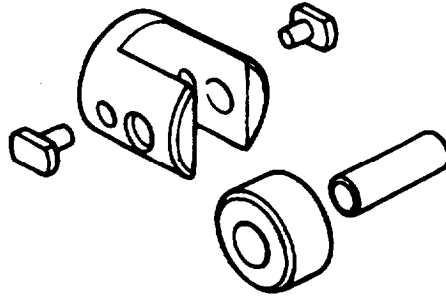

FIGURE 3-26. Feed Pump Tappet
- b. Check piston (29) for damage or cracks. If defective, replace piston.
- c. Check tappet (31) rollers, bushing, and pin for excessive wear, flaws, or peeling. If defective, replace tappet, refer to FIGURE 3-26.